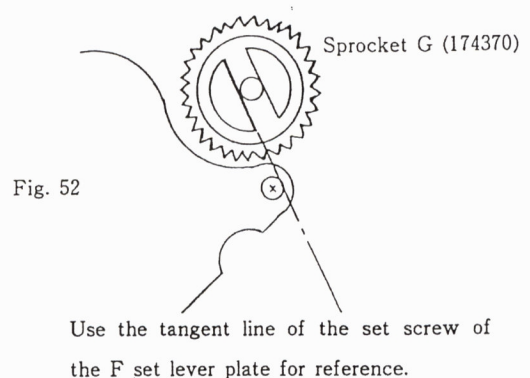
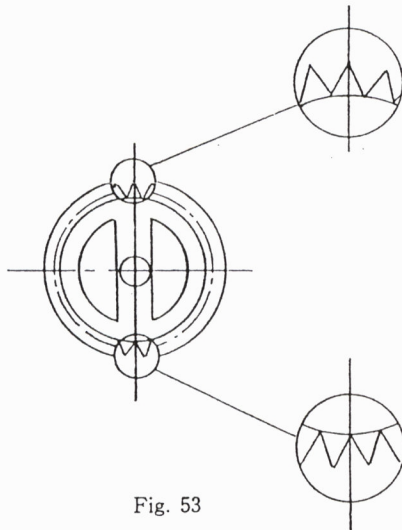

Fig. 52
Fig. 53
- c) The Sprocket G should be in the same direction as Figure 52.
- ※ If the Sprocket G is not placed in the same way as shown in Fig. 52, reverse upside-down the Sprocket G or replace other Sprocket G see Fig. 53, 54. To set a perforation in right position.